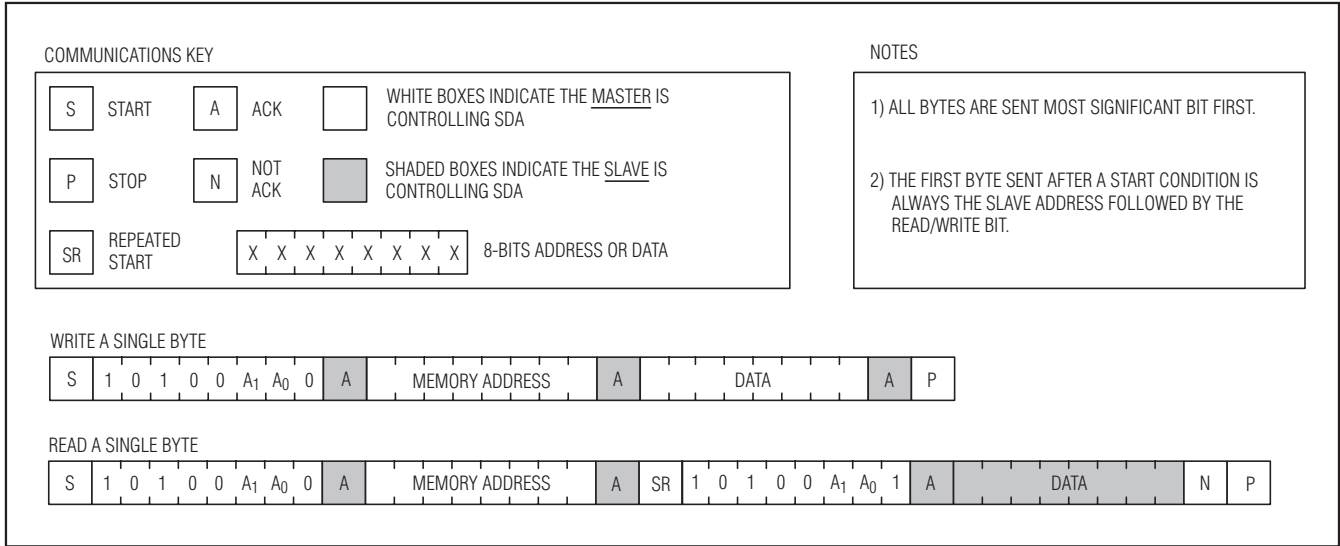

Figure 11. I2C Communications Examples
**Writing a Data Byte to a Slave:** The master must generate a start condition, write the slave address byte ( $\overline{R/W} = 0$ ), write the memory address, write the byte of data, and generate a stop condition. Remember the master must read the slave's acknowledgement during all byte write operations. See Figure 11 for more detail.
**Reading a Data Byte from a Slave:** To read a single byte from the slave the master generates a start condition, writes the slave address byte with  $\overline{R/W} = 0$ , writes the memory address, generates a repeated start condition, writes the slave address with  $\overline{R/W} = 1$ , reads the data byte with a NACK to indicate the end of the transfer, and generates a stop condition. See Figure 11 for more detail.